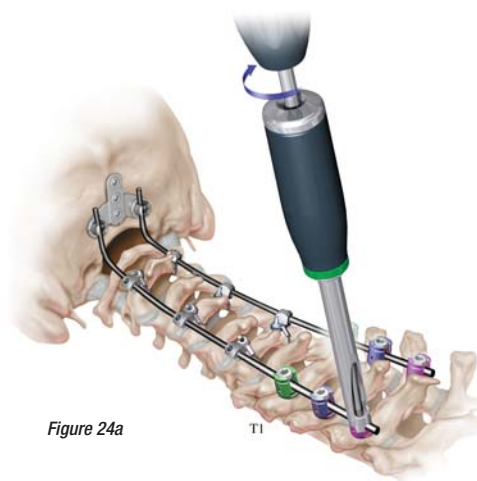

Figure 24a
- Perform final tightening of the Hooks and Minipolyaxial Inner Set Screw, by rotating the Torque Driver **clockwise** while providing counter torque on the rod with the Counter Torque Device. The Inner Set Screw is completely tightened when the Torque Driver audibly clicks (Figure 24a).